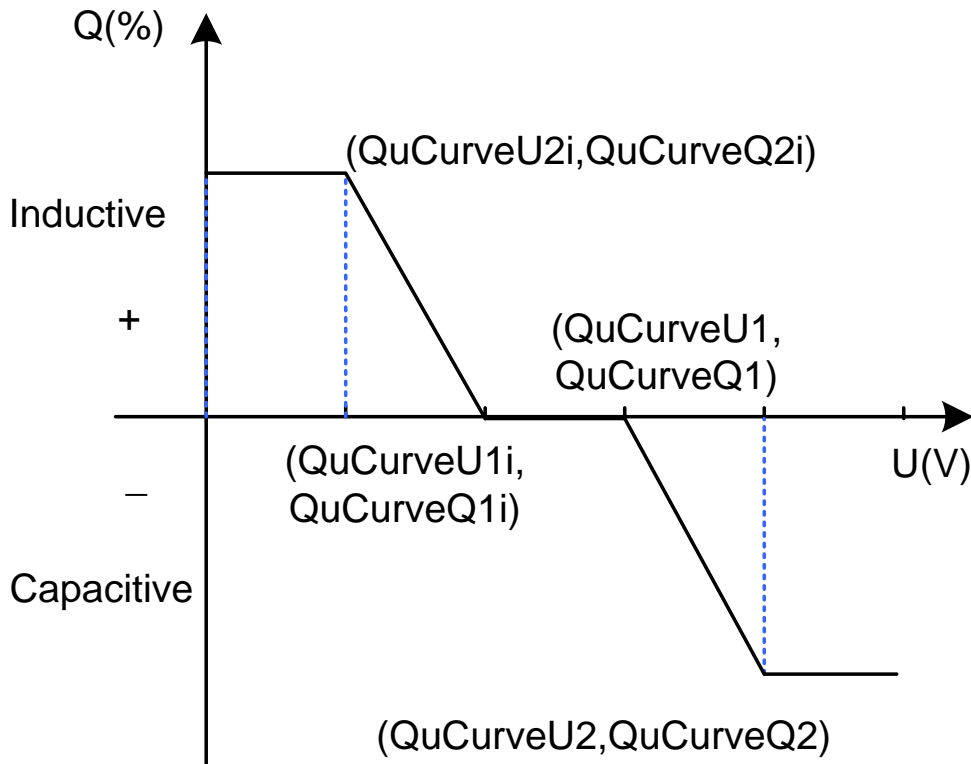

Figure 4-20 Q(U) Curve Mode
- Q(U) Curve : Q(U) curve mode. Using the curves to set the reactive power setpoints (See Figure 4-20). The reactive power compensation changes according to the grid voltage. These functions are only available for IEEE-1547 grid standards.